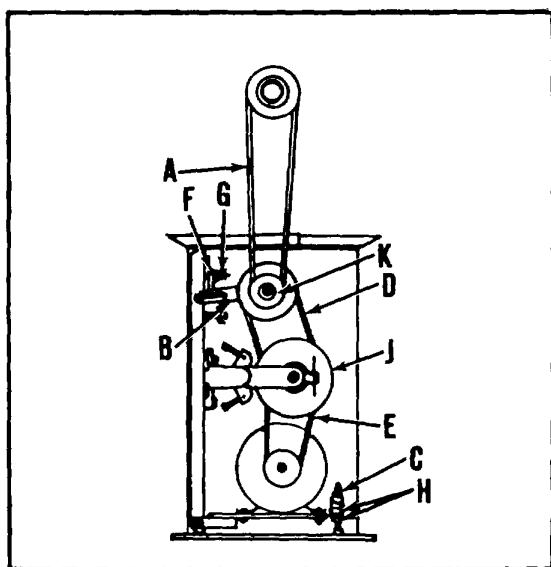

Fig. 31.
To increase tension on the spindle V-Belts (A) the jackshaft mounting bracket (B) Fig. 31, must be shifted down. This may be done as follows:
1. Loosen nut (C) Fig. 31, on the motor mounting plate so the variable speed drive belts (D) and (E) have considerable play.
2. Loosen nut (F) Fig. 31, and tighten screw (G) until the spindle belts, (A) have the desired tension. Then tighten nut (F).
Tension adjustment for the variable speed belts (D) and (E) Fig. 31. is made by tightening or loosening the nuts (C) and (H) on the motor mounting plate.